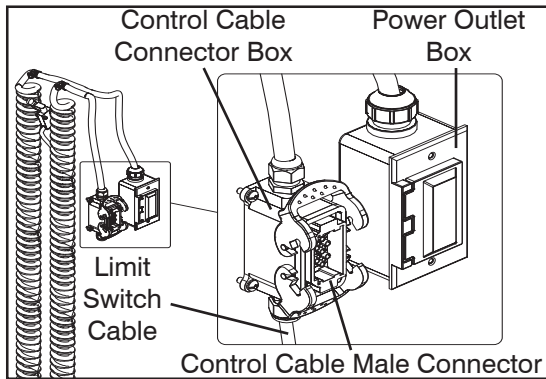

Figure 5-9. Control Box and Power Outlet
- Remove the power outlet box (if equipped) off the mast. See Figure 5-9.
- Disconnect the platform control cable from the control cable male connector. See Figure 5-9.
- Remove the control cable male connector from the connector block. See Figure 5-9.
- Remove the control cable connector box from the mast. See Figure 5-9.